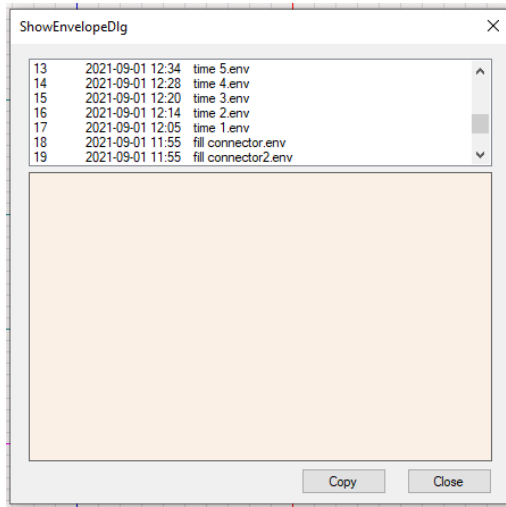

Figure 5.9 Dialog box for copying envelope plot screenshots.
1. Click on *File* then *Copy Envelope from Tester*. A dialog box will appear. See Figure 5.9.